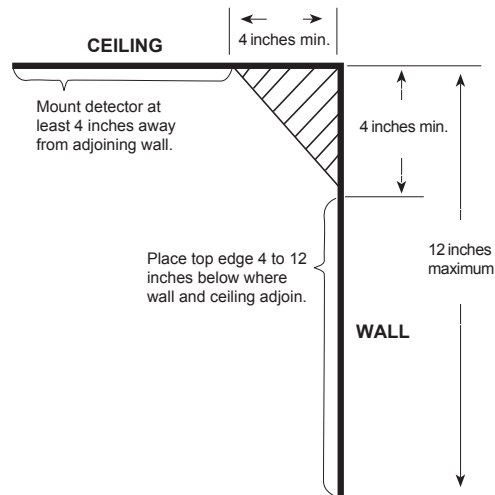

Figure 1: Smoke Detector Placement
- When wall-mounting, install smoke detectors so the top edge of the unit is 4 to 12 inches below where the wall and ceiling adjoin. See Figure 1.